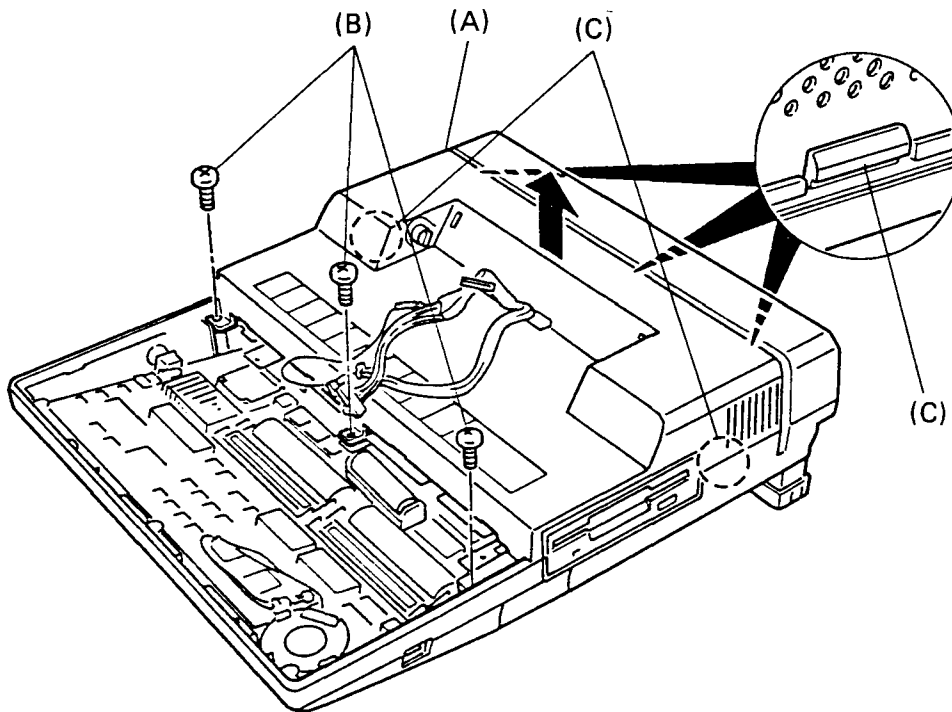

Figure 4-13 Top cover
5. Remove 3 screws (B) in the figure 4-13 according to section 4.8. Lift up PDP cover and top cover together and press the cable guide (B) nail out from the other side.
6. Remove the stopper plate (C) by removing 2 screws (D) and flat head screw (E).